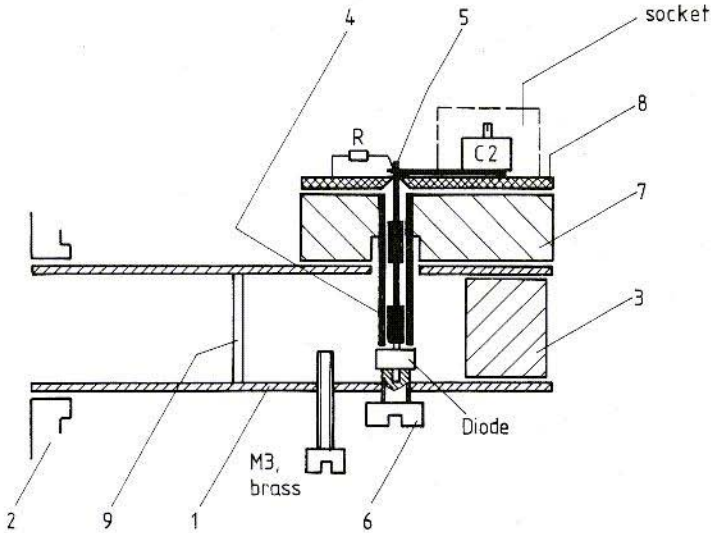

Fig. 6:
First of all, the wave-guide section, part 1 in **fig. 5** (preferably made of copper owing to its high heat conductivity), is suitably drilled to receive the diode holder. The holding block 7 is also drilled and prepared for the matching circuit. After a test assembly according to **fig. 6** the drilling for the diode-holder is checked to see that it is in alignment with the W/G hole. The brass M 3 holding screws for the diode-block are filed down flush with the inner surface of the wave-guide. The two 3 mm dia. posts (part 9) of the filter are placed in the wave-guide, the wave-guide flange (2) is placed over the end and the whole assembly soldered together. The $\lambda/2$ line (part 4) is soldered into the brass block. The choke (part 5) is constructed as shown in **fig. 5** by slipping the two 5 mm long, 3 mm dia. tubes over a 23 mm length of silvered 1,5 mm dia. wire. The tubes are placed in position and soldered, the whole choke assembly insulated with teflon tape. The sliding short-circuit (part 3) is provided with 0,1 mm copper foil surfaces to slide on, thus making a better binding contact with the inner wave-guide surfaces without a precision mating being necessary.